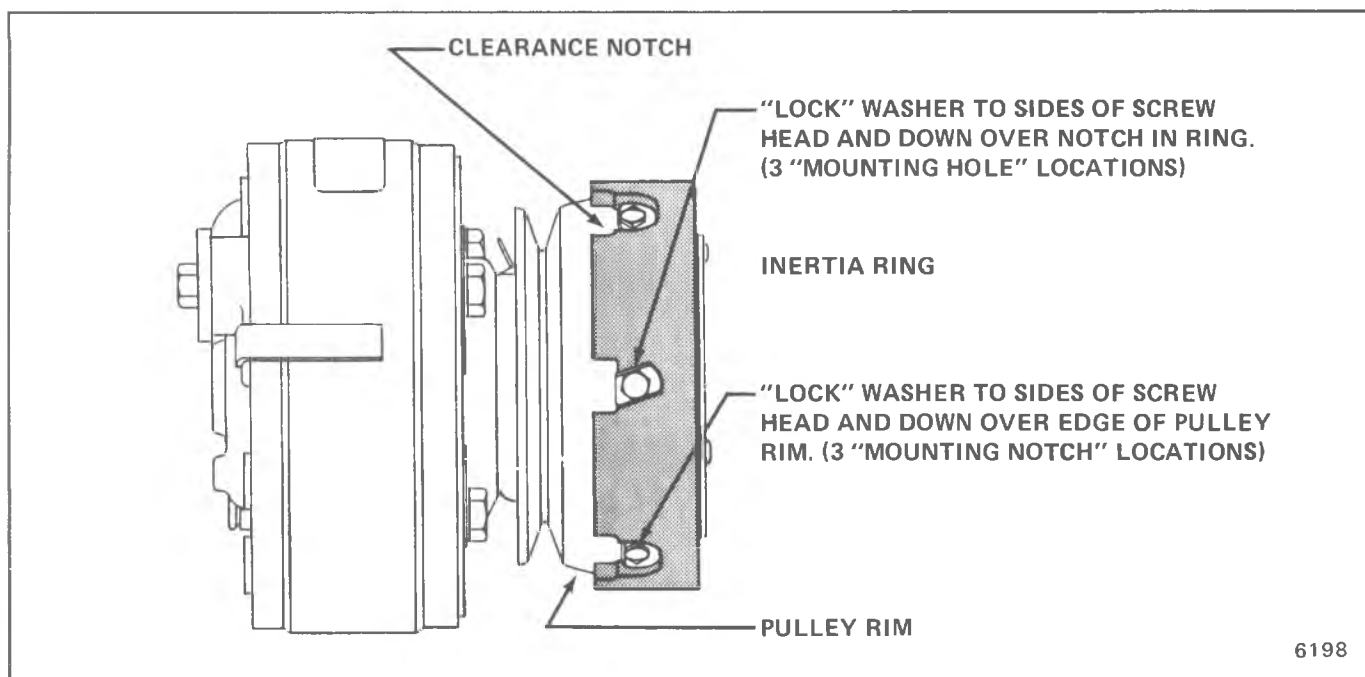

Fig. 1D-92 R-4 Pulley Rim and Inertia Ring Mounting Detail
using the short notch mounting locations, Figure 1D-91. The mounting notches are located 120° apart radially around the Pulley Rim.
11. Assemble the Inertia Ring onto the Pulley Rim being careful to align the Inertia Ring mounting holes with the mounting holes in the Pulley Rim. If the Inertia Ring cannot be moved by hand and must be rotated for centering the mounting holes, use a drift punch or blunt tool and a hammer to carefully tap at one of the large clearance notches in the inertia ring to rotate the ring into position, Fig. 1D-92.